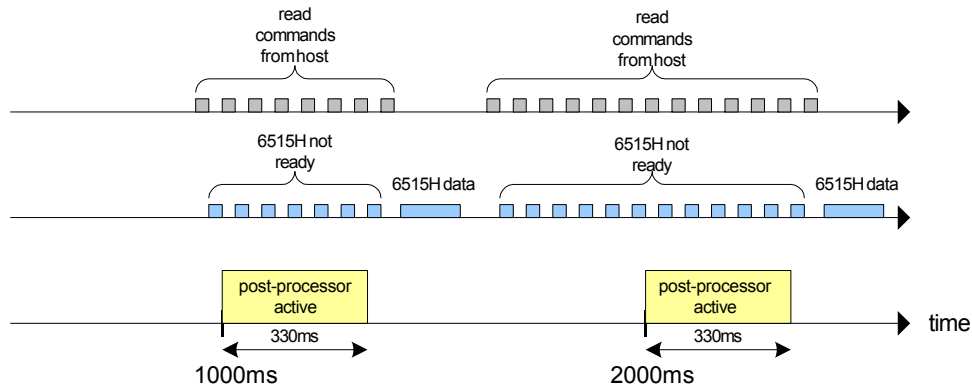

Figure 21: Timing Diagram (Host Polling)
- 2) Polling the *READY* bit in the *STATUS* word of the 71M6515H (status polling method, see Figure 21). This method requires that the host processor utilizes a timer with 1ms to 5ms resolution tied into the highest-priority interrupt. The interrupt service routine must initiate reading the *STATUS* register, preferably at least every 10ms, in order to monitor the *READY* bit, but the host processor must wait for the response of each status request. Otherwise, the *STATUS* register read operations will be stacked in the 71M6515H resulting in multiple responses. If a delayed response is received upon a *STATUS* register read, the host processor will know that the 71M6515H is within its post-processing period, which makes it necessary that the host waits for the response. Every time the *READY* bit in the *STATUS* register is not set, indicating that data is not available, the host should poll again